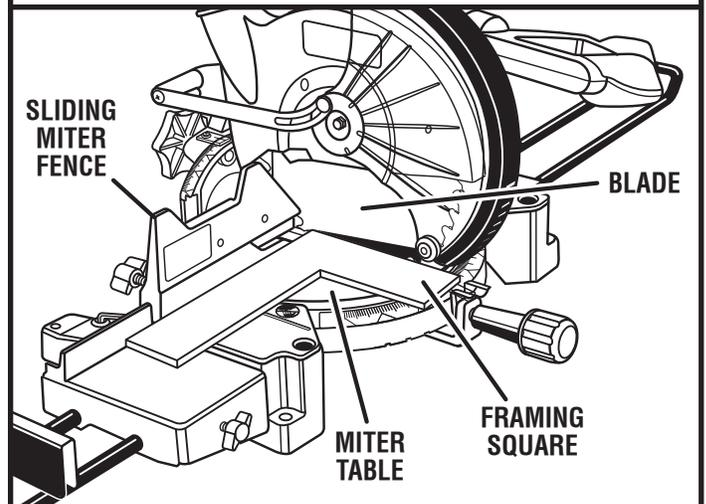

Fig. 25
- If the front or back edge of the saw blade angles away from the square as shown in figures 25 - 26, adjustments are needed.